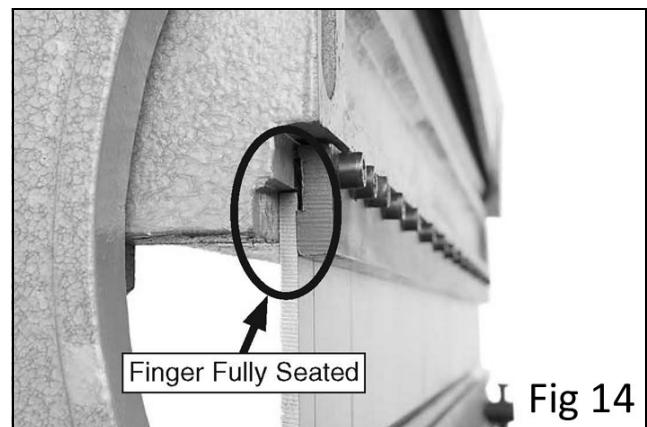

Fig 14
8. Make sure the fingers are slightly loose between the screw and the casting, then use the hand crank to raise the receiver to fully seat the fingers up against the casting behind the screw, as shown in Figure 14.